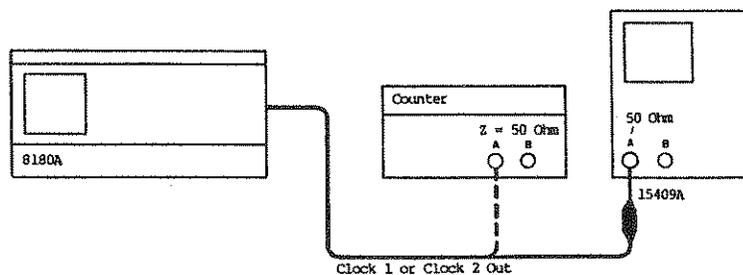

Figure 4-4 Clock Width Test Setup
7. Connect Clock 1 [2] output to the oscilloscope A input as shown in figure 4.4 and press **RUN**.